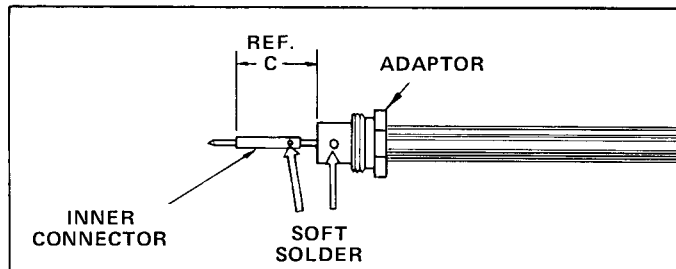

FIGURE 4
STEP 4. Slide Type N, BNC or TNC adaptor onto cable until flush with end of outer conductor. See Figure 4. Soft solder adaptor to outer conductor. Slip inner connector onto inner conductor until it bottoms against inner conductor. Check reference "C" dimension in table. Soft solder inner connector to inner conductor.